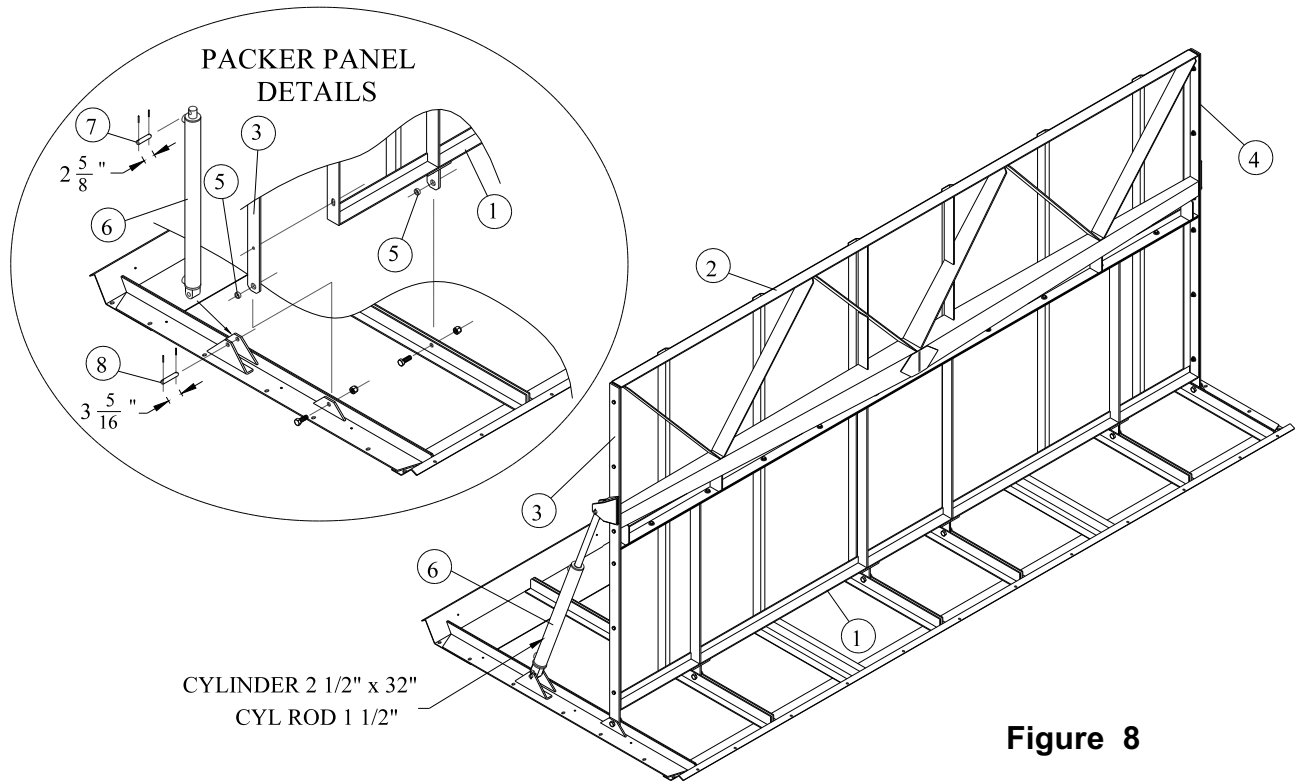

Figure 8
6.3 **PACKER PANELS** -Refer to *Figure 8*. (If you have purchased a Boll Buggy without packer panels, omit STEPS 6.3 & 6.4.) Lay packer panels (Items 1 & 2) on the ground and loosely bolt together using 1/2" x 1 1/4" bolts, flat washer, and flange lock nuts. Install the cylinder anchor side bars (Items 3 & 4) on each end of the packer panels making sure that the hydraulic cylinder mounting ears point to the side of panels opposite large cross rib. Lift complete assembly. Insert bushings (Item 5) at each panel pivot point and install packer panel to bottom of basket with cross ribs facing to left side of basket using 3/4" x 2" bolts and lock nuts.
6.4 Install the two (2) packer panel hydraulic cylinders (Item 6) as shown, securing with cylinder pins and roll pins (Items 7 & 8 - *Figure 8*).